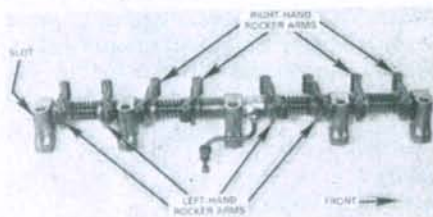
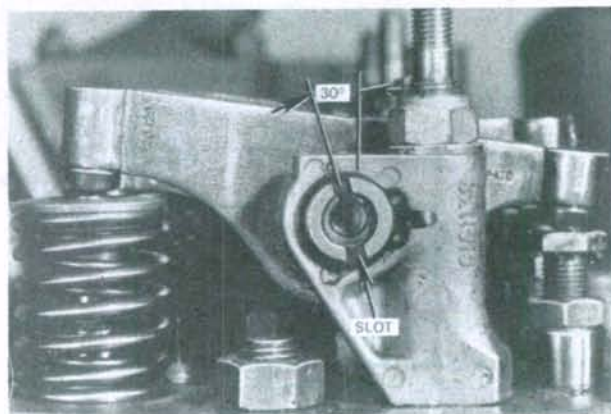

Fig. 52—View of correctly assembled rocker arm assembly. Slot in end of shaft should be toward rear and at angle shown in Fig. 53.
Fig. 53—Slot in end of rocker arm shaft should be set at angle shown to meter the correct amount of oil.
48. The rocker arms and shaft assembly can be removed after removing the hood, fuel tank and rocker arm cover. The rocker arms are right-hand and left-hand units and should be installed on shaft as shown in Fig. 52. Desired diametral clearance between new rocker arms and new shaft is 0.0190-0.0889 mm (0.00075-0.00350 inch). Renew shaft and/or rocker arm if clearance is excessive.
support brackets. This position is indicated by a slot in one end of the rocker shaft as shown in Fig. 53. When the slot is positioned horizontally, the maximum oil circulation is obtained. In production, the slot is positioned 30° from the vertical and the position indicated by a punch mark (P) on the adjacent support bracket. When reassembling, position the rocker shaft slot as indicated by the punch mark and check the assembly for proper lubrication. The shaft will not normally need to be moved from the marked position. The slot must be located at rear of shaft as indicated in Fig. 52.